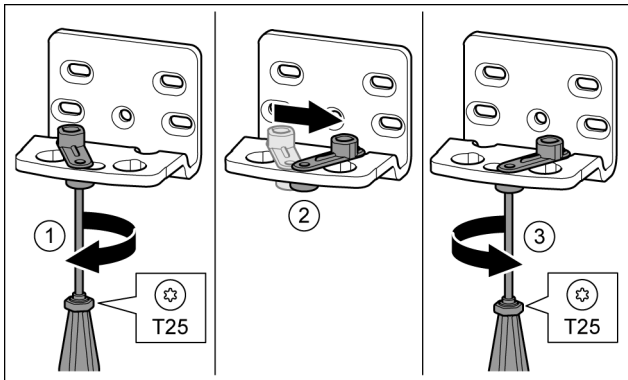

Fig. 17
- ▶ Loosen the screw using a T25 screwdriver. Fig. 17 (1)
- ▶ Lift the door closure aid and turn it 90° to the right in the hole. Fig. 17 (2)
- ▶ Tighten the screw using a T25 screwdriver. Fig. 17 (3)